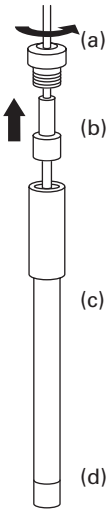

Fig. 1
1. While holding the probe vertically, unscrew the top cap (a) and carefully remove the glass electrode inner body (b) from the electrode outer body (c) (See Fig. 1). Set cap with inner body aside carefully. Pour out remaining electrode filling solution from outer body if applicable, new probe will not have any filling solution in the body.